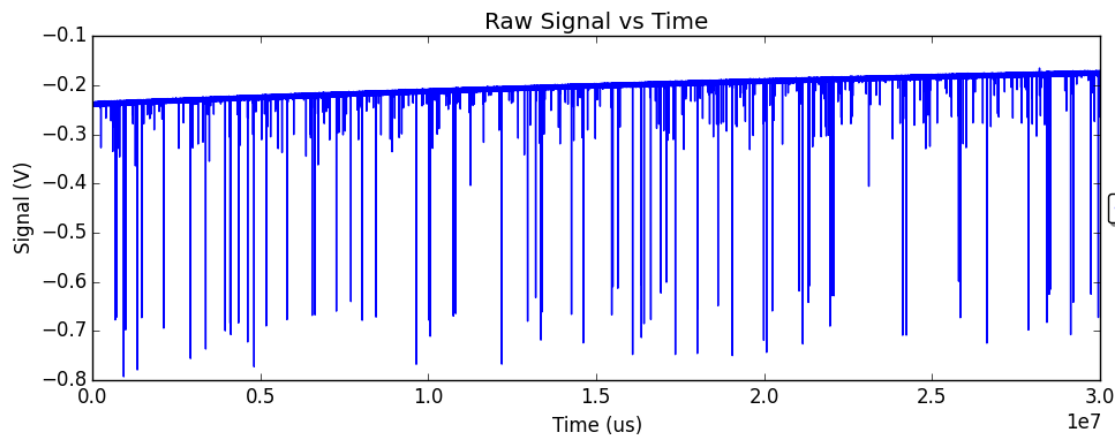

Figure 7. Exemplary raw data: Smooth baseline with particle detection events appearing as downward spikes.
- Raw data should have the form shown in **Figure 7**—it has a smooth baseline with particle detection events appearing as downward spikes from the baseline.